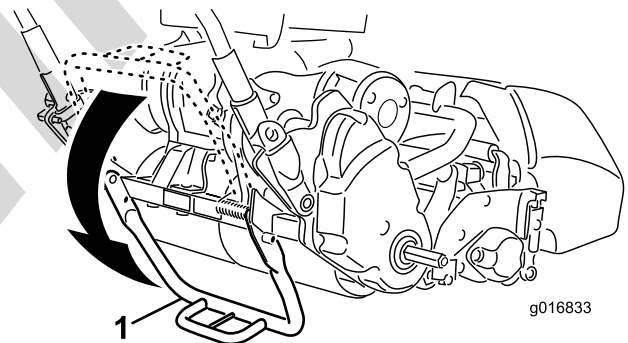

Figure 7
1. Push the kick stand down with your foot in the center of the kick stand and pull up on the lower center machine handle until the kick stand has rotated forward, over center (Figure 7).